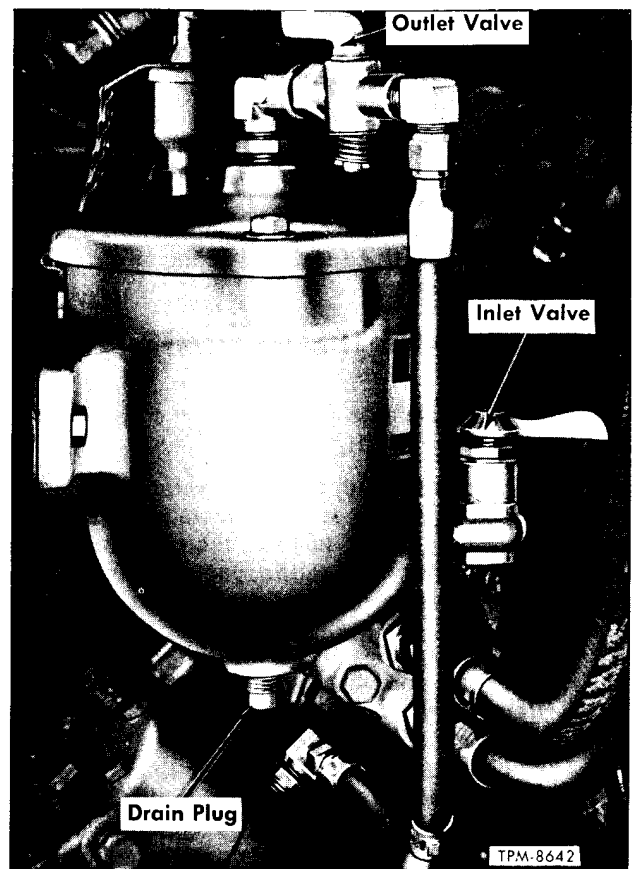

Figure 4—Water Filter Installed
Some coaches are equipped with a water filter (fig. 4) as special equipment which has a dispos-
1. Close shut-off cocks (fig. 4).
2. Remove drain plug (5) and allow water to drain from filter.
3. Loosen screws (3) and remove cover and gasket (1 and 2).
4. Remove upper plate (10), filter element (9), lower plate (8), spring and plate (6 and 7).